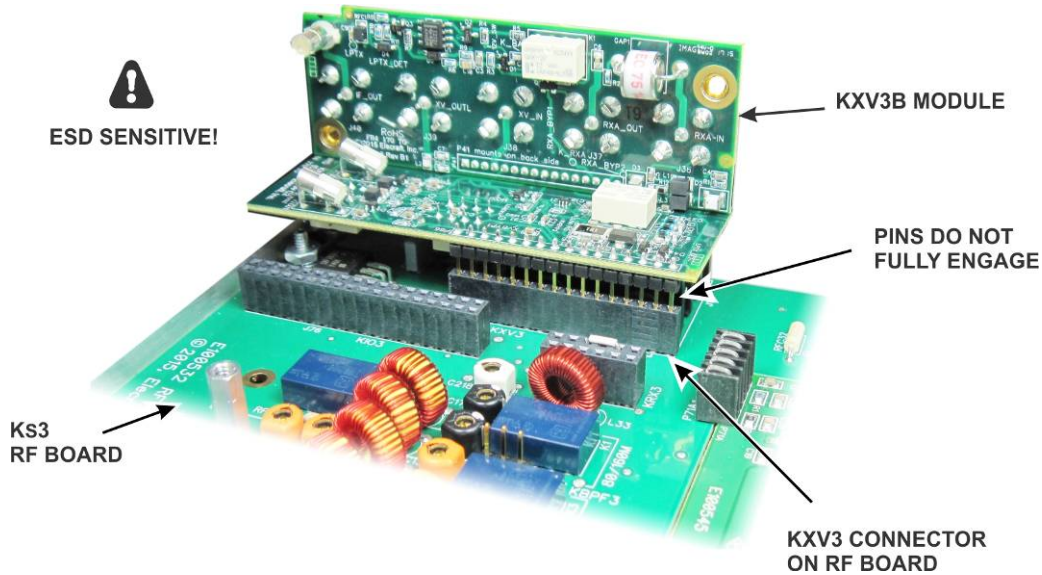

Figure 41. Plugging the KXV3B Module into the RF Board.
- Plug the KXV3B module into the KXV3 connector as shown in Figure 41 with the BNC connectors on the module facing toward the rear of the RF board. Note that the pins do not fully engage. That is normal.